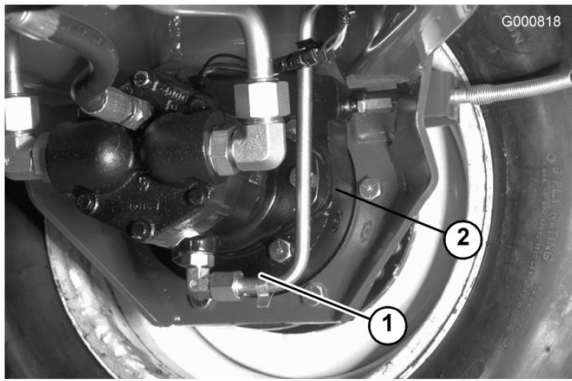

Figure 66
3. Remove both plugs from the bottom of the brake housing and allow the oil to drain (Figure 66).